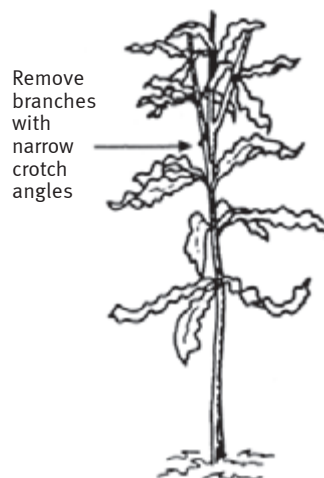

Figure 15. Pruning action where there are branches with narrow crotch angles with the bark folded into the crotch
3. Examine the junction between branches and the main trunk or central leader, and remove any branches with a narrow crotch angle (more upright) where the bark is folded into the crotch (Figure 15). Where vigorous lateral branches are competing strongly with the central leader, pruning them back by about one-third will reduce the dominance and induce branching.